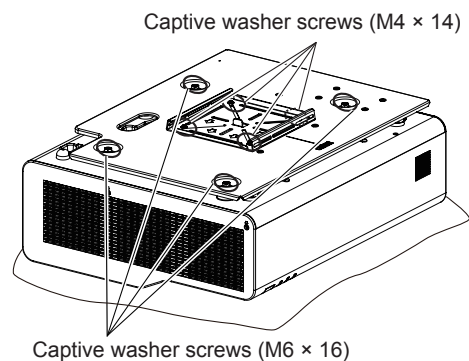

Fig.2
- 7) Remove the four captive washer screws (M6 × 16) that secure the projector mount bracket kit to the projector. (Fig.2)
- 8) Remove the four supplied captive washer screws (M4 × 14) on the projector mount bracket kit so as to separate the connecting plate from the projector mount bracket. (Fig.2)